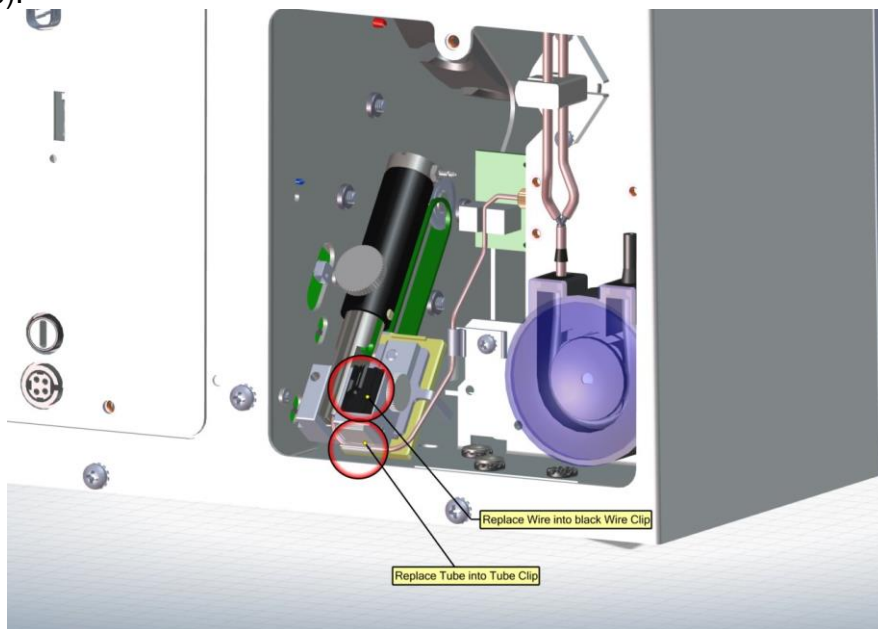

Figure 19
- 15) Replace the Probe Wire into the black Wire Clip, and the Needle Tube into the Tube Clip (Figure 19).